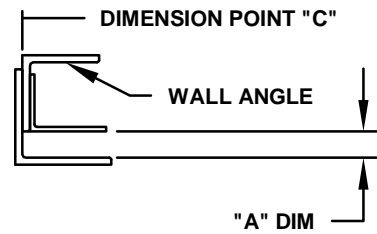

FIG A1
- 2) For typical installation for Type I and II (See FIG A1) guide assemblies, Dimension point "C" is centered around jamb opening - (if side room permits) - if there are questions check job construction drawings (if available).